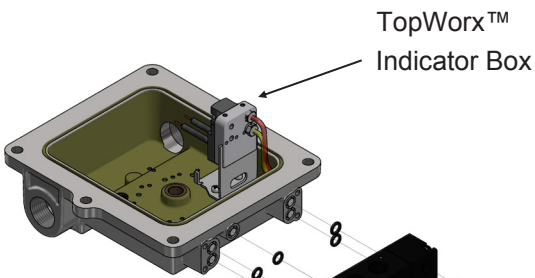

Fig.1
All valves are configured for internal pilot pressure supply. Pilot pressure supply is from Pilot Valve mounted inside the TopWorx Indicator Box as shown in Figure 1.
- When assembling this product to a pilot to ATEX 2014/34/EU, take the least favorable category, maximum working pressure and temperature into account. Compliance with the Essential Health and Safety Requirements has been assured by compliance with the European Standards EN 13463-1. The mounting position for the pilots as shown in figure 1 (a).
- **ASSEMBLY OF 1.06Cv VERSIONS:** 1.06Cv series valves are directly mounted on Indicator Box. Spring return and dual pilot both mount with 4 screws. See figure 1 & 2. TopWorx Indicator Box shown in the pictures are only for illustration purpose.